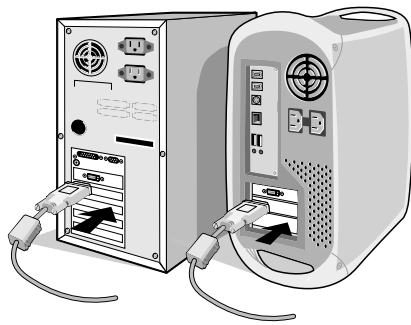

Figure A.1
2. **For a PC or MAC with DVI digital output:** Connect the DVI signal cable to the connector of the display card in your system (**Figure A.1**). Tighten all screws.